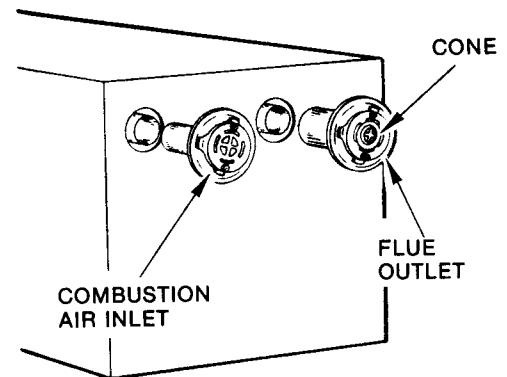

FIG. 9
7. Install the vent-air terminals on the outside wall of the vehicle as shown in Figure 9.